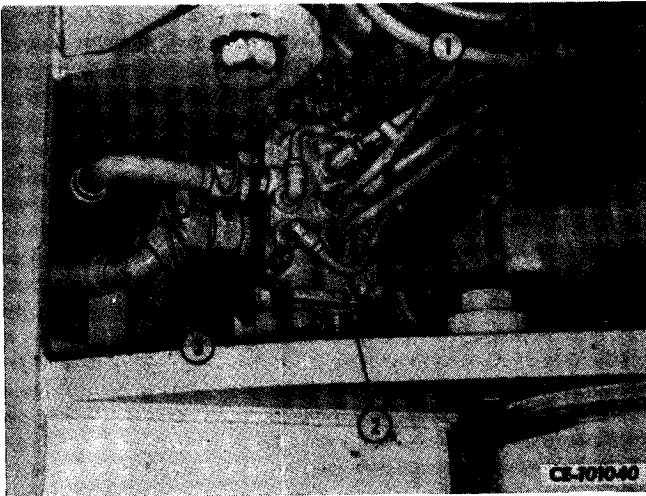

Figure 4-8
Disconnect transmission shift linkage (1, Fig. 4-8) from bracket and valve (2). Disconnect all hoses (3) leading to valve.